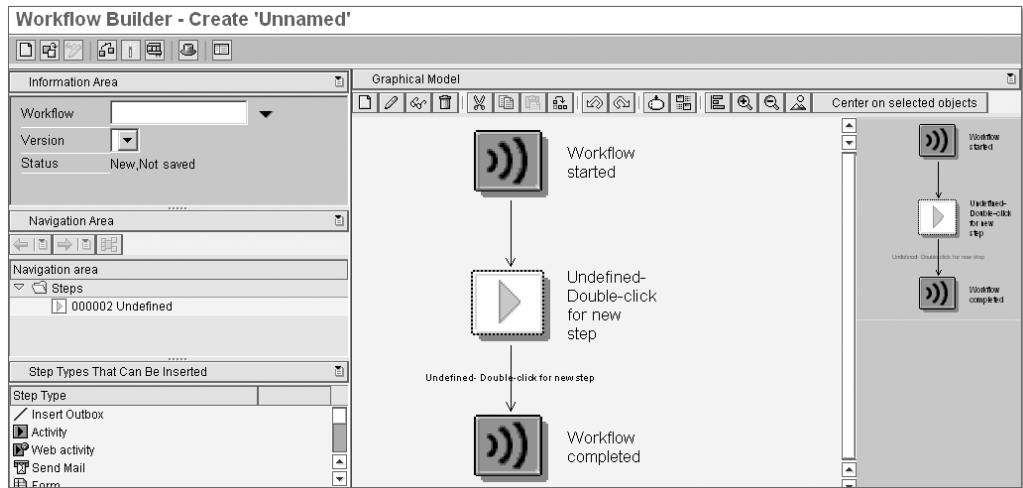

Figure 8.5 Initial Workflow
When the Workflow Builder is called for the first time or you opt to create a new workflow, a newly created initial workflow definition appears (see Figure 8.5).
2. If you do not see an initial workflow similar to Figure 8.5, select **WORKFLOW • NEW** or click on the **CREATE NEW WORKFLOW** icon (📄).